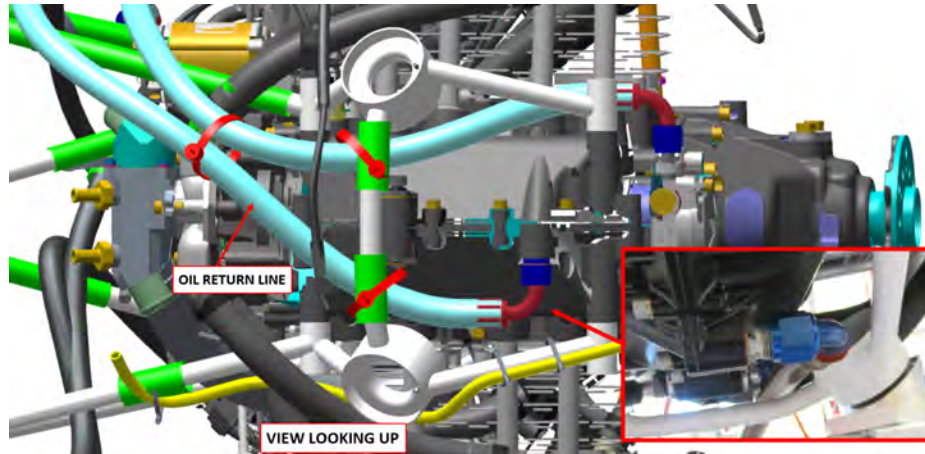

FIGURE 16-9
1. Verify the orientation on the oil return line fitting at the engine prior to installation. (See Figure 16-9.) The fitting should be roughly parallel with the engine oil pan.